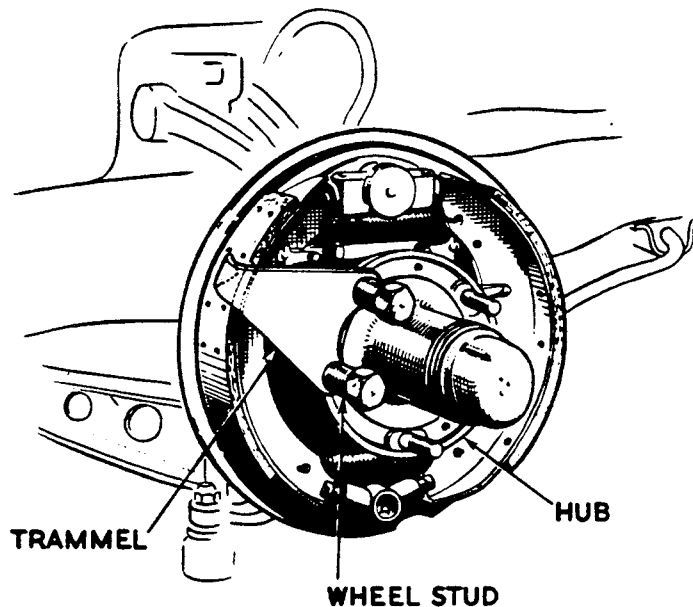

FIG. 3.
- (a) From a piece of light gauge steel, make up a trammel as shown in (FIG. 3) to fit over two of the wheel studs on the hub, and bend the pointer to touch lightly on the face of the brake linings.